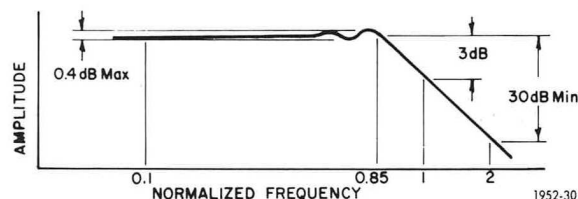

Figure 6-6. Typical Low-Pass Filter Characteristic.
e. Repeat the above procedure for each cutoff frequency listed in Table 6-10 (refer to Figure 6-6). In each case set the reference amplitude at a frequency 0.1 times cutoff. The frequency at each point of interest should correspond to that shown in the table.